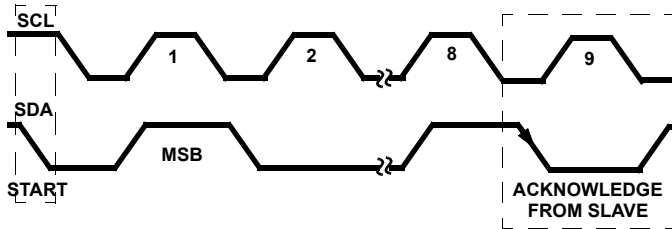

FIGURE 17. ACKNOWLEDGE ON THE I2C BUS
Each address and data transmission uses 9-clock pulses. The ninth pulse is the acknowledge bit (A). After the start condition, the master sends 7 slave address bits and a R/W bit during the next 8-clock pulses. During the ninth clock pulse, the device that recognizes its own address holds the data line low to acknowledge. The acknowledge bit is also used by both the master and the slave to acknowledge receipt of register addresses and data as described in Figure 17.